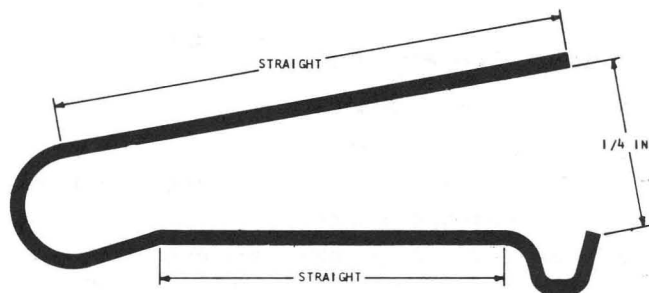

Figure 3-47. PM Relay Contact Wires
4. Check new contacts for correct configuration before installing. Refer to Figure 3-47.